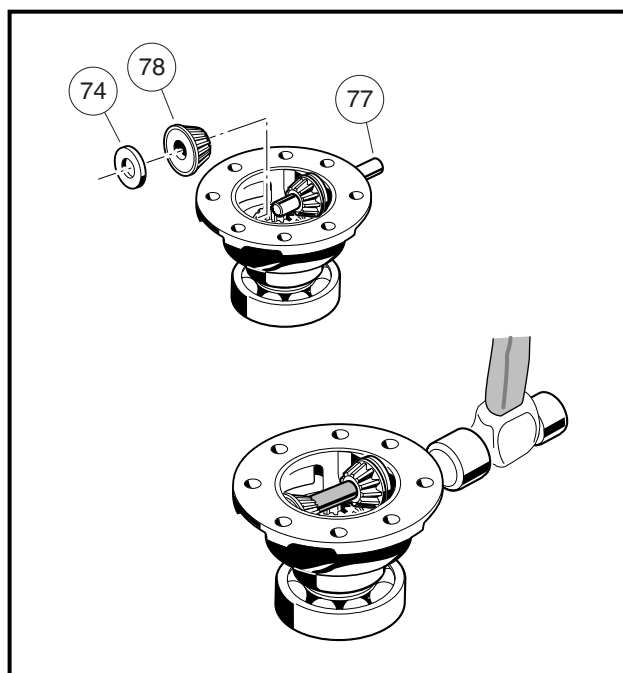

Figure 7-37 Second Idler Gear
- 1.4. Position the remaining thrust plate (74) and idler gear (78) in the carrier case. Continue to drive the pin (77) through them and the wall of the carrier case until the ends of the pin are flush with the sides of the carrier case (**Figure 7-37, Page 7-21**).
- 2.4. Position the remaining thrust plate (74) and idler gear (78) in the carrier case. Continue to drive the pin (77) through them and the wall of the carrier case until the ends of the pin are flush with the sides of the carrier case (**Figure 7-37, Page 7-21**).